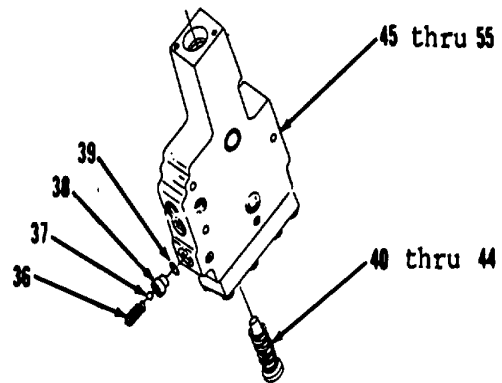

Figure 10-85.
22. Remove spring (36) and ball (37, Figure 10-85).
23. Use 3/8 inch hex key to unscrew seat (38) and remove preformed packing (39). Discard preformed packing (39).